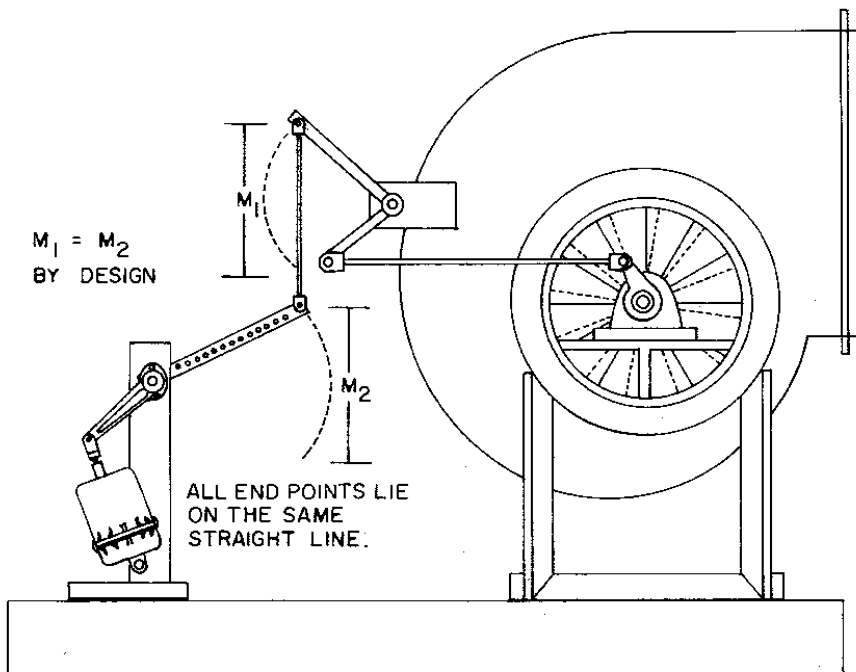

Fig. 8. See Pedestal-Mounted Application (page 6)
* Torque for actuator with a 20 PSIG (140 kPa) supply, 8 to 13 PSIG (56 to 91 kPa) nominal spring range, and application similar to Fig. 8.